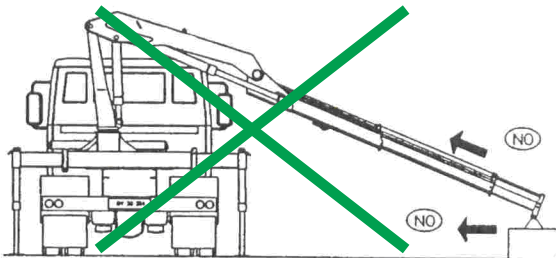

Figure 8.5: Lift the load clear of the ground before other movement.
- Always lift the load clear of the ground (resting surface) with boom lift or hoist before rotating the boom, extending or retracting the boom, or moving the load in any manner (Figure 8.5).